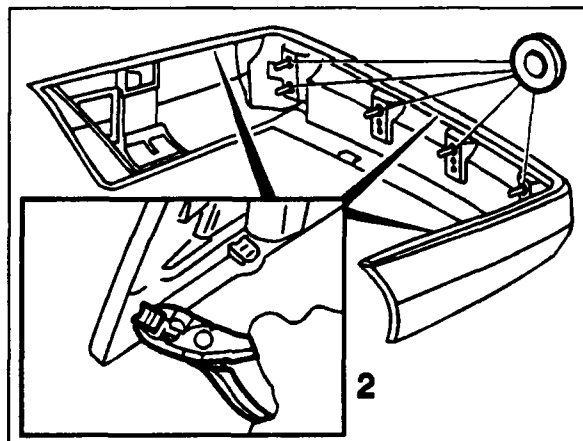

Figure 12
10. Install chrome moldings and clips (Figure 12).
11. Press the rubber washers provided on to the mounting studs (Figure 12).